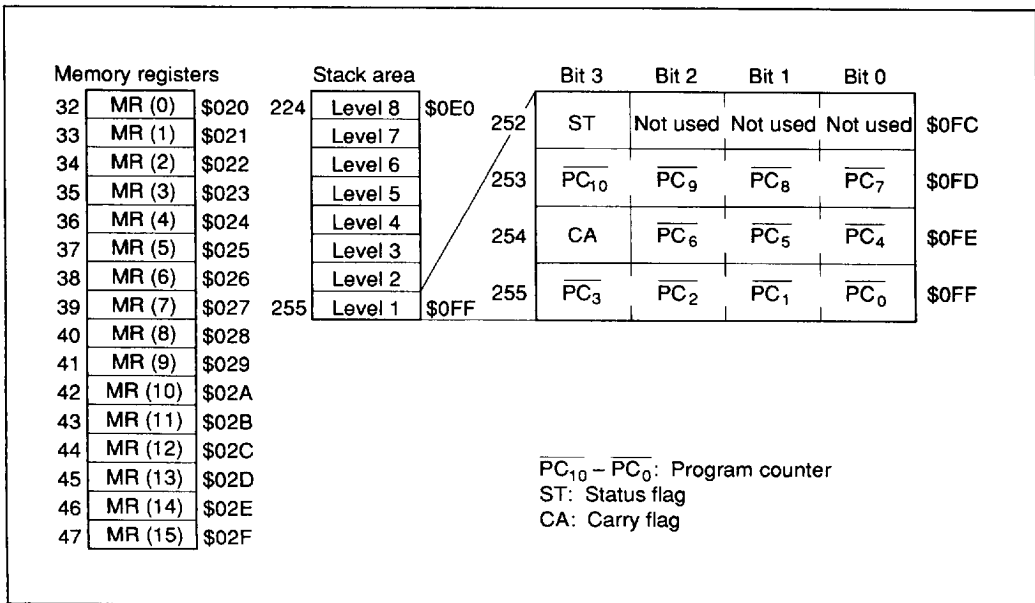

Figure 4 Configuration of Memory Registers, Stack Area, and Stack Position
Data Area (\$020 to \$07F): The 16 digits of \$020 through \$02F are called memory registers (MR) and are accessible by the LAMR and XMRA instructions (figure 4).
Stack Area (\$0E0 to \$0FF): Locations \$0E0 through \$0FF are reserved for LIFO stacks to save the contents of the program counter (PC), status flag (ST), and carry flag (CA) when a subroutine call (CAL or CALL instruction) or interrupt is performed. This area can be used as an 8-level nesting stack in which one level requires 4 digits. Figure 4 shows the stack area levels. The program counter is restored by the RTN and RTNI instructions. The status and carry flags are restored only by the RTNI instruction. When this area is not used as a stack, it becomes available as a data area.